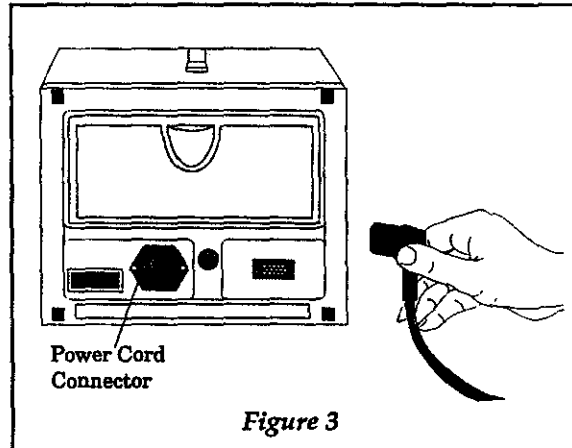

Figure 3
Step 3 Plug the electrical cord into the power connector on the back of the unit. See Figure 3.